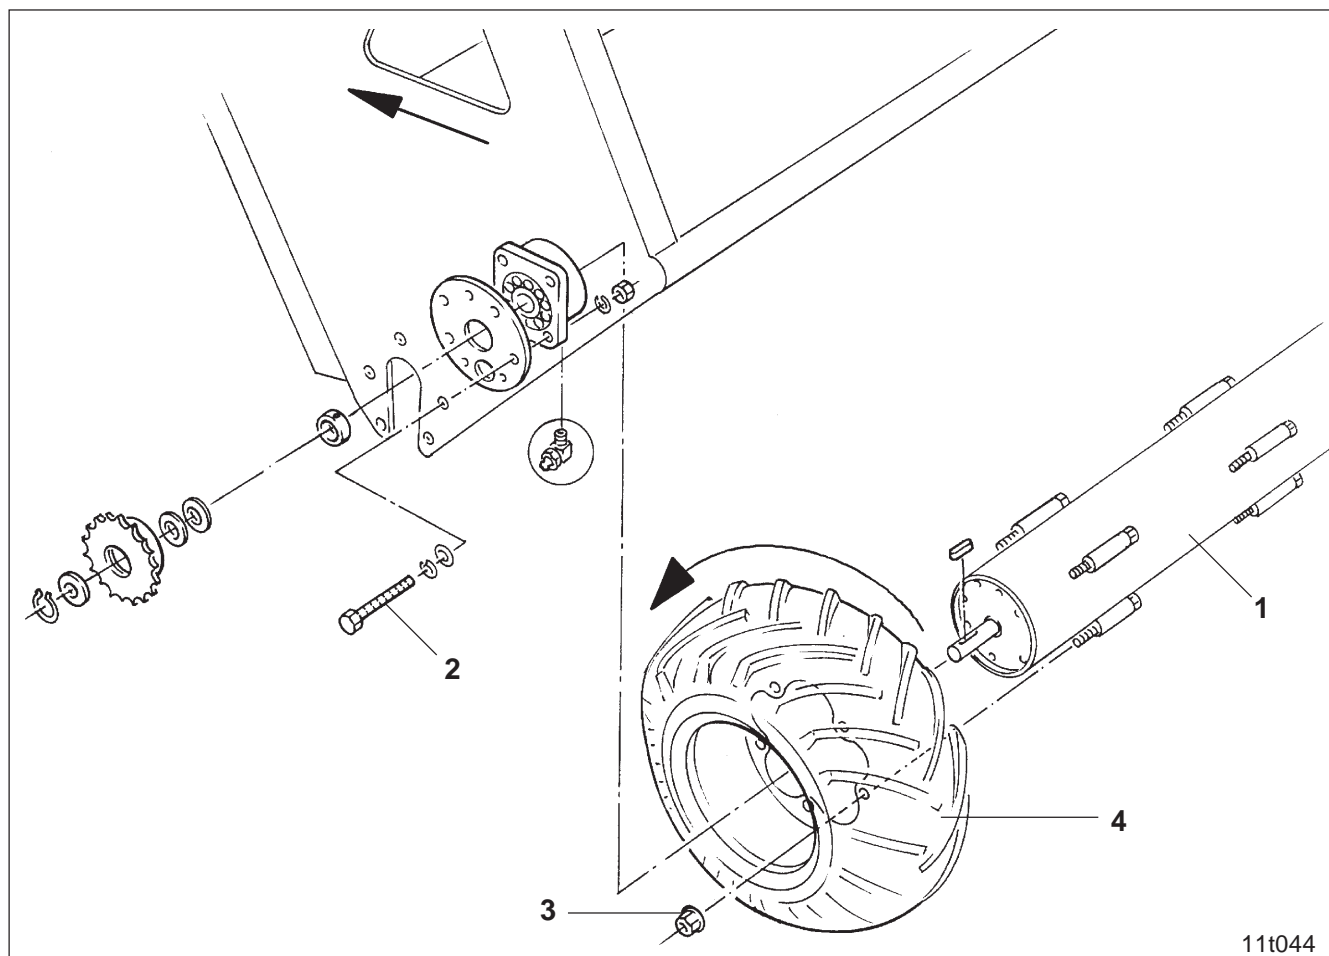

Fig. 50.7
- Secure roller with chocks against unintended rolling and bolt off the roller (Fig. 50.7/1). For this remove the fixing bolts (Fig. 50.7/2) on both sides
- Remove hex nuts (Fig. 50.7/3) and pull off tyres
(Fig. 50.7/4) from the roller.
When assembling observe the running direction of the tyres. The tyres may only be mounted as illustrated in Figure 50.7 so that the brake lever cannot be toed in by the tyre profile.